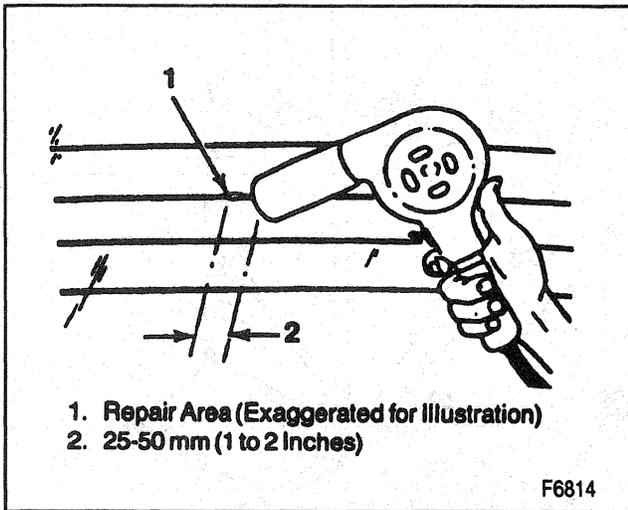

Figure 30—Applying Heat to the Grid Line Repair
4. Holding the heat gun 25 to 50 mm (1 to 2 inches) from the repair area, apply heat at 260° to 370° C (500° to 700° F) for 2 to 3 minutes (Figure 30). If a heat gun is not available, allow the repair to air dry at an ambient temperature of 20° to 39° C (70° to 90° F) for 24 hours.